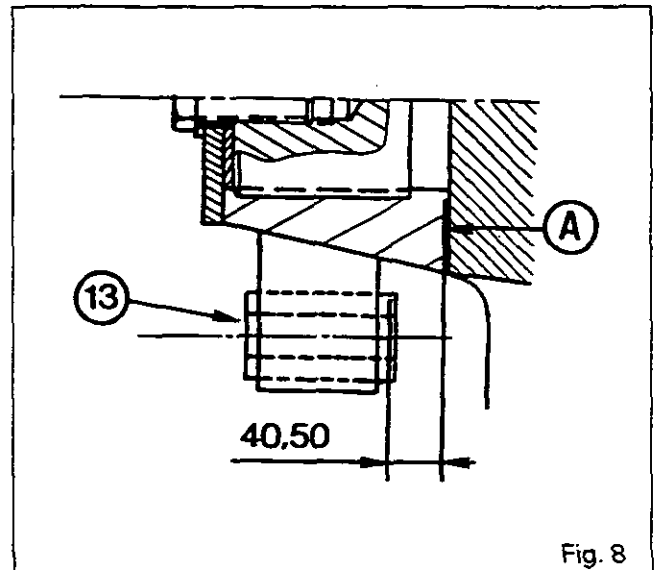
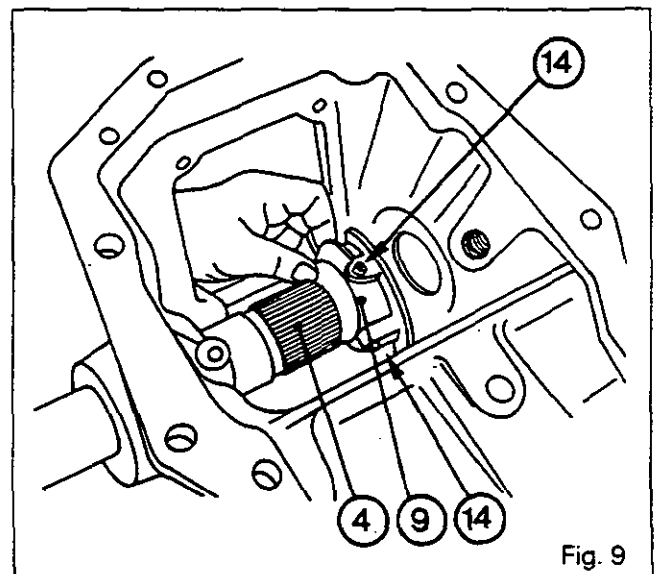

Fig. 8
Fig. 9
Note: The bushes (13) are mounted with Loctite 648 at a distance of 40.50 mm from the face A (Fig. 8).
33. Fit the bushes (8) in the cover.
34. Fit the cup plug (17) smeared with Loctite 542 flush with the cover (2- speed p.t.o.).
35. Mount the lift shaft (4) and the cam (9) in the cover (Fig. 9).
36. Tighten the set screws (14) smeared with Loctite 241 to a torque of 5 Nm (Fig. 9).